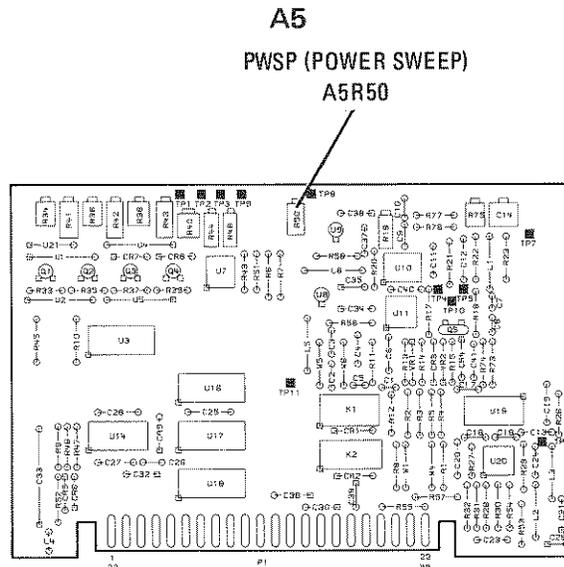

Figure 5-31. Power Sweep Adjustment Location
4. While observing 8755C display of RF output, adjust A5R50 PWSP (power sweep) (Figure 5-31) for 10 dB/sweep.